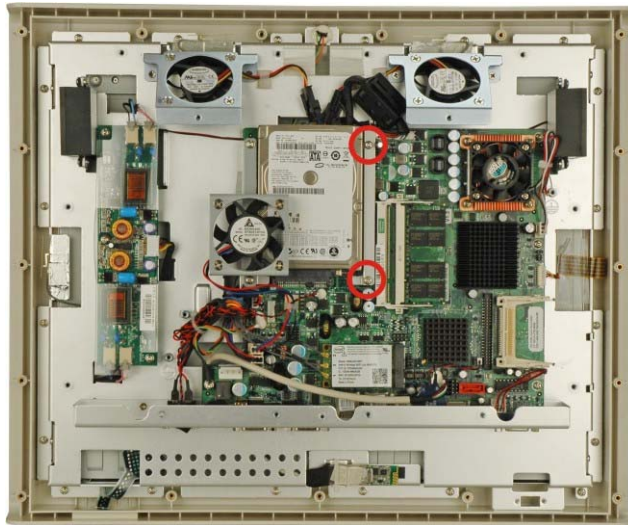

Figure 5-3: Hard Drive Bracket Retention Screws
Step 5: Remove the remaining two HDD bracket retention screws (**Figure 5-3**) and lift the HDD bracket off the panel PC.